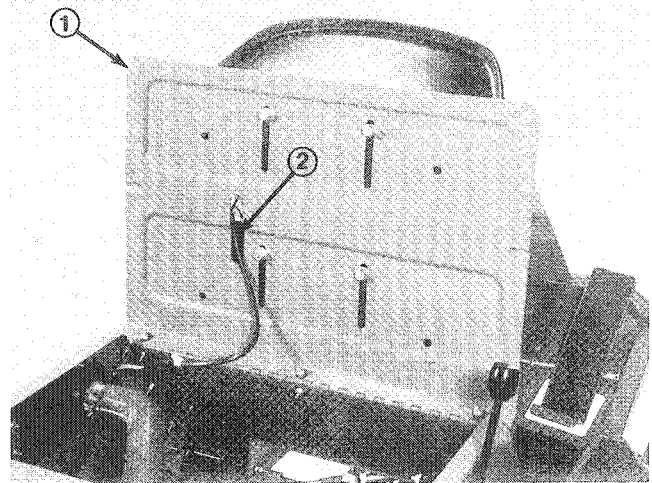

Figure 2
- Position seat onto seat plate aligning mounting holes and routing seat switch wire thru slot (Fig. 2).
- Loosely secure seat to seat plate with (4) capscrews, flatwashers and lockwashers.
- Adjust seat to desired position, tighten capscrews and plug seat switch connector into wire harness (Fig. 2). Make sure wire harness is clear of lift arm and all moving parts.